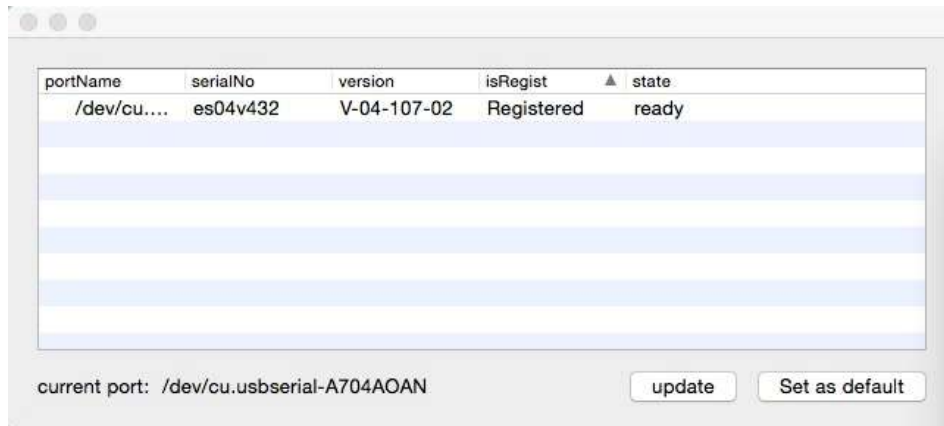

Figure 4.3
4. Waiting for auto-connection. If status button is gray, choose serial device which is found from menu “Tools”->”select machine”, see figure 4.1and 4.2 for Windows or figure 4.3 for Mac OS for serial choose.